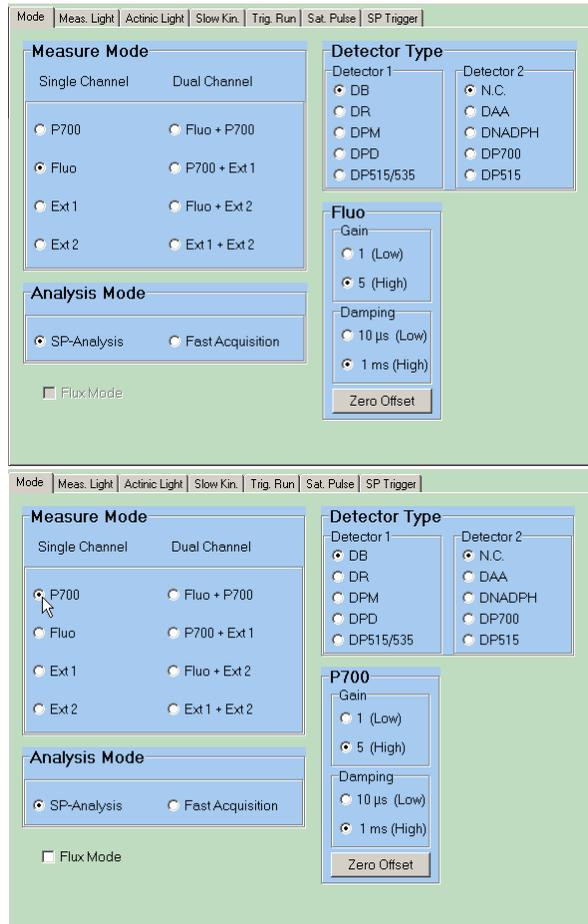
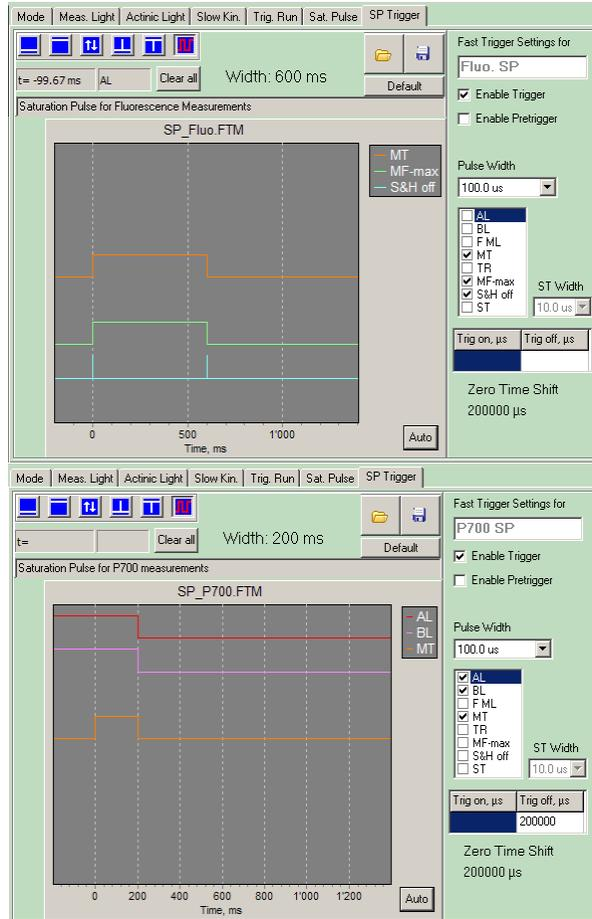
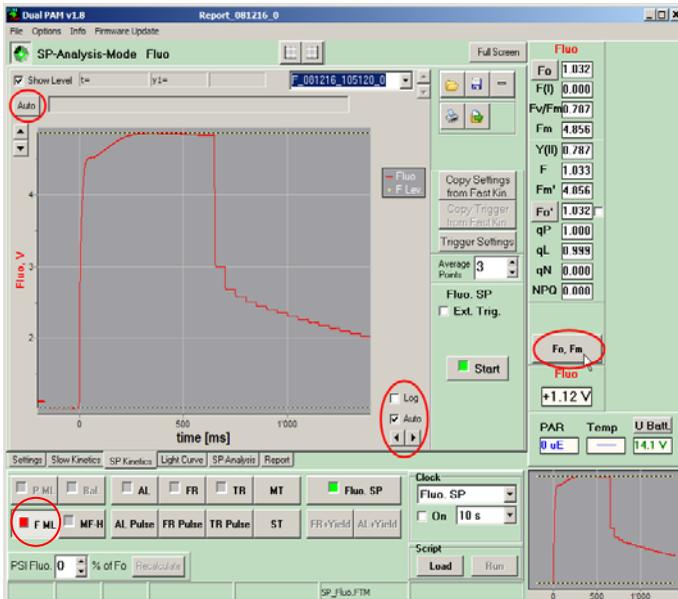
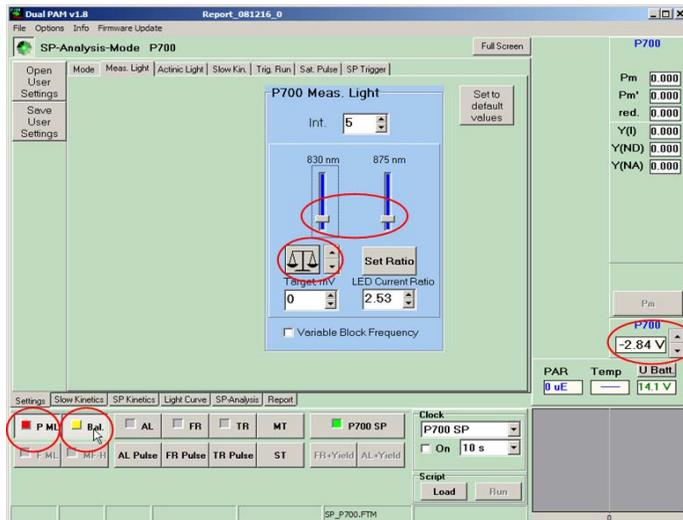

Fig. 8 Settings Measure Mode; top: Chlorophyll fluorescence; below: P700 measurement
Fig. 11 Trigger Schedule for Saturation Pulse; top chart: Chlorophyll fluorescence; chart below: P700 measurement
Fig. 14 Saturation Pulse kinetics during F_m determination
Fig. 15 Balancing of the P700 Measuring Light
cence or P700 channel activated (see Fig. 8). The Dual-PAM program will only show the parts belonging to the selected channel. The following figures show a comparison of the settings, when either the Mode **Fluo** or **P700** is selected. Each settings window has a button for default settings, which can be used in the beginning.
As can be seen in **Fehler! Verweisquelle konnte nicht gefunden werden.** and Fig. 11, the default settings for the Saturation Pulses (SP) differ between the chlorophyll fluorescence (width 600 ms) and P700 (width 200 ms) measurements. For simultaneous Fluo and P700 measurements the default SP width would have been 300 ms.
In Fig. 11 the trigger schedule for the Saturation Pulse procedure is shown. The saturation pulse itself is assigned **MT** (multiple-turnover with regard to single-turnover **ST**), its line is in the middle of both charts. Its width (compare upper and lower chart of Fig. 11) can be shorter for P700 measurements than for chlorophyll fluorescence, since full oxidation of PSI occurs in the very beginning of the pulse, when
The two upper lines in the lower chart of Fig. 11 show the schedule for the Actinic Light (**AL**) and Blue Light (**BL/FR**). They are transiently switched off after each Saturation Pulse, in order to assess the P700 signal in the fully reduced state.
The two lower lines in the SP trigger schedule for fluorescence (upper chart Fig. 11) have technical reasons: The frequency of the Measuring Light is transiently switched to maximum (**MF-max**) during the Saturation Pulse in order to obtain maximal time resolution. MF-max is higher in the Single-Channel Mode (400 kHz) than in the Dual-Channel mode (blocks of pulses alternating between the two channels). The lowest line, annotated with **S&H**, refers to a sample-and-hold amplifier in the system. It is switched off for a short period of time (default: 100 μ s) during strong fast changes in light, which otherwise would disturb the pulse modulated measurement.
For fluorescence measurements, choose the Mode **Fluo** (see Fig. 8) and switch the Measuring Light on using the **F ML** button. Then press the button **Fo, Fm** (see Fig. 14), which triggers a Saturation Pulse according to the trigger schedule shown in Fig. 11. To see the complete kinetics of the rapid SP-induced fluorescence changes open the window **SP Kinetics**. To autoscale the curve, use the buttons **Auto** (Fig. 14).
For P700 measurements, choose the Mode P700 (see Fig. 8). When the Measuring Lights are switched on using the **P ML** button, an automatic Balance of the difference signal is performed (see Fig. 15).
The two beams are balanced best, when the P700 signal (red circle at the right side of Fig. 15) is close to 0.00 V. Fine adjustment can be done with the two arrow keys beside it. Please note that the absolute level of the difference signal has no effect on the observed signal changes, as long as the difference signal does not saturate (at +6.5 and -2.8 V).
Settings Mode (Fig. 8)